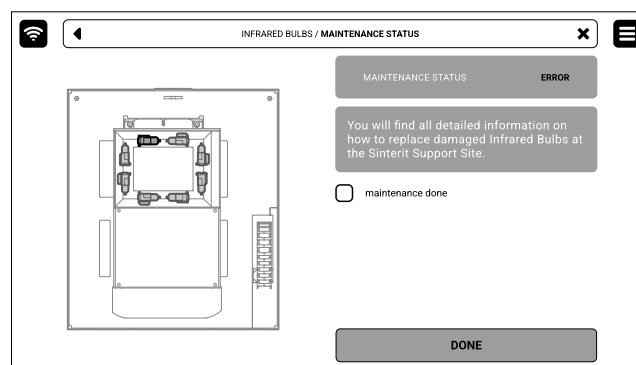

Fig. 12.53 The screen of the maintenance of the Infrared bulbs.
3. Mark the **MAINTENANCE DONE** and then the **DONE** button (fig. 12.53).